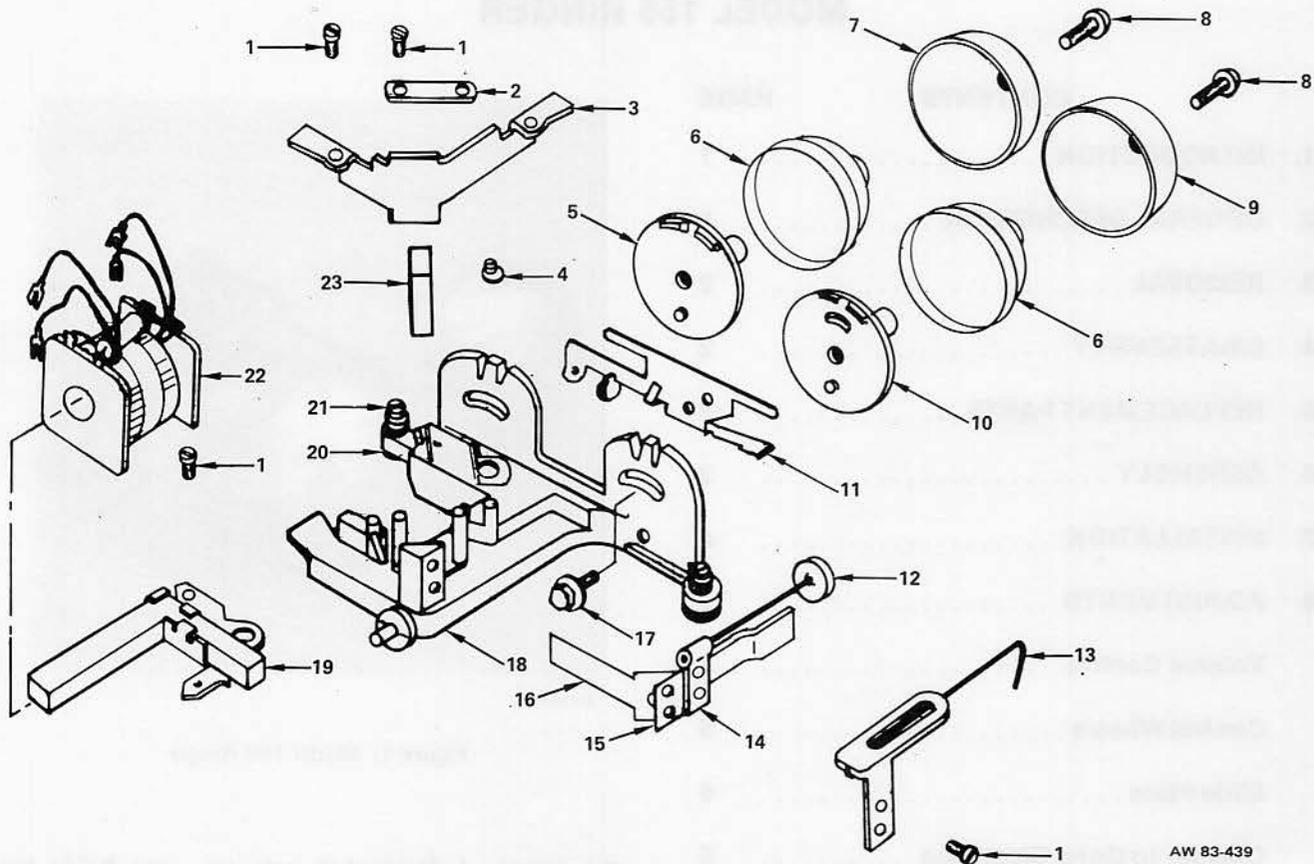

Figure 2: Model 156 Ringer, Exploded View
2.01 The Model 156 ringer (see Figure 2) is a two-gong, high-impedance, biased-type, frequency-selective ringer equipped with a mechanical volume control and assembled on a die-
(e) Slide the coil assembly onto the core laminations, and position the slide plate and lamination assembly (with the coil assembly) onto the ringer frame. Ensure that the slide plate rests flat against the ringer frame in the tracks provided, and that the slotted adjusting cam washer is positioned in the hole of the slide plate. (See Figure 2.)
(g) Position the shunt bar on the ringer frame and mount it to the ringer frame using two screws. (See Figure 2.)
(j) Position the clamping plate over the magnet and mount it to the ringer frame using two screws. (See Figure 2.)
(k) Place the armature and clapper assembly into the gap between the magnet and the ringer frame mounting post. Ensure that the armature return spring of the assembly is outside the ringer frame mounting post. (See Figure 2.)
(n) Mount the bias spring to the ringer frame mounting post using two screws. (See Figure 2.)